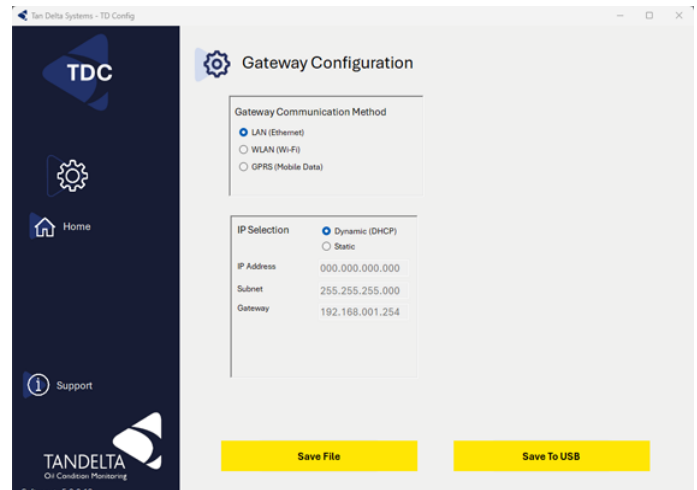

Fig. 6-3 Gateway Configuration - LAN settings
- 1) Refer to Fig. 6-3. For the **IP Selection**, select either **Dynamic (DHCP)** or **Static** – consult with your network administrator to make sure that you select the correct option.